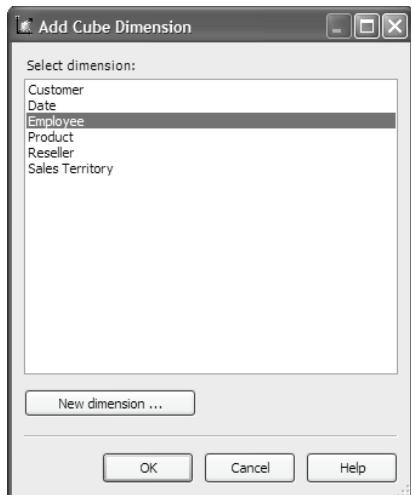

Figure 3.31 Use the Add Cube Dimension dialog to add existing or new dimensions to the cube.
1. Right-click anywhere inside the Dimension pane and choose *Add Cube Dimension*. The Add Cube Dimension dialog appears (see Figure 3.31). If you need to create a brand new dimension, you can do so by clicking on the “New dimension” button. This will launch the Dimension Wizard. Once the dimension is created, it will be added to the cube.